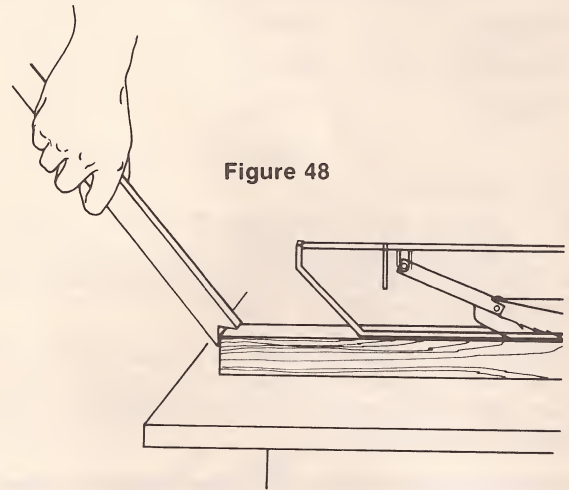

Figure 48
RIPPING, BEVEL RIPPING, AND RABBETING are performed using the RIP FENCE together with a PUSH STICK as shown in figure 48.
When ripping small pieces, a push stick should be used. Start the rip cut in the same manner as explained but when your hand is within eight (8) or ten (10) inches of the blade, use the push stick as shown in **figure 48**.